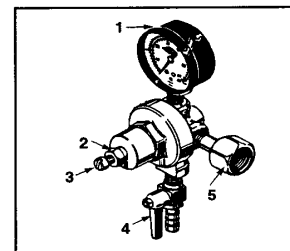

Fig. 10
- The gauge monitors low internal keg pressure and should be adjusted to read between 10-12 psi. (See Figure 10)